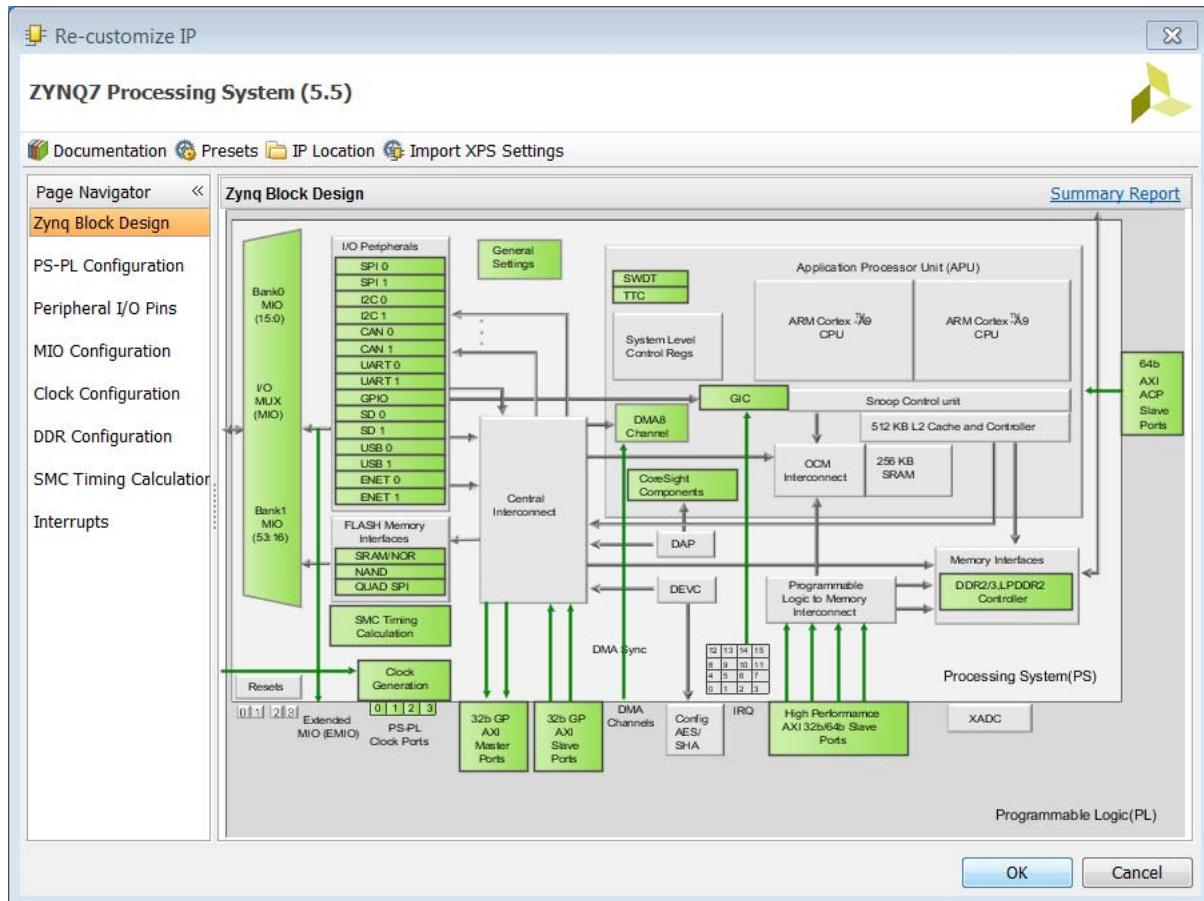

Figure 2-6: ZYNQ7 Processing System Configuration Dialog Box
3. Double-click the processing system graphic to invoke the **Re-customize IP** process, which displays the Re-customize IP for the ZYNQ7 Processing System dialog box as shown in Figure 2-6.
Alternatively, you can select the options from the Page Navigator on the left, as shown in Figure 2-6.